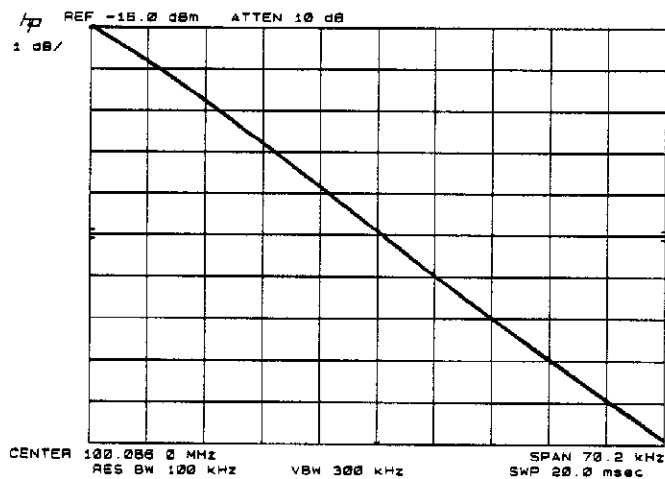

Figure 4-7. Determining Spectrum Analyzer FM Sensitivity
3. Adjust the frequency span and center frequency for a diagonal trace from the top left corner to the lower right corner of the CRT (see Figure 4-7).